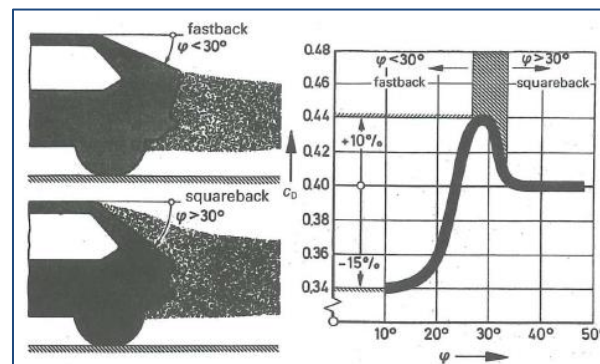

Fig. 9: Effect of slant angle and flow pattern on a car back [Hucho, 1998]
3. Influence of the slant angle in car back (Fig.9).